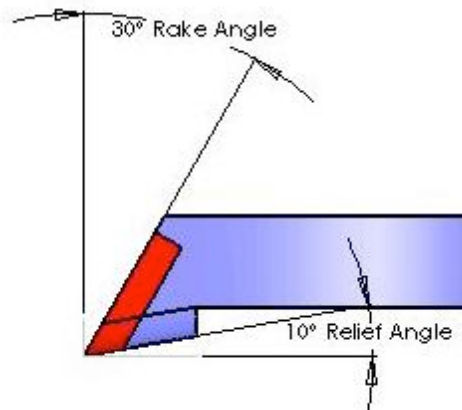

Figure B.1: Rake and Relief Angles
9.3 The cutting edge of the cutter is made up of two intersecting angles. The rake angle (Figure B.1) may vary from 30° to 45° . The relief angle (Figure B.1) may vary from 10° to 15° . When sharpening the cutters, care should be taken to avoid changing either of these angles, **particularly the relief angle**. Changing the relief angle will adversely affect the penetration rate of the drill.